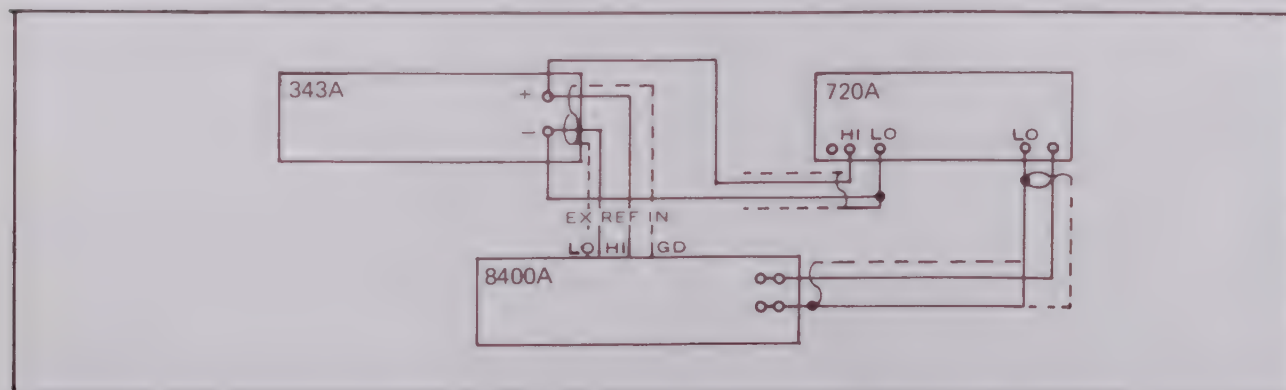

Figure 6-4. EQUIPMENT CONNECTIONS FOR DC EXTERNAL REFERENCE UNIT CALIBRATION.
- Connect the dc voltage source to the Model 8400A as shown in Figure 6-4.
- Connect equipment as shown in Figure 6-4.